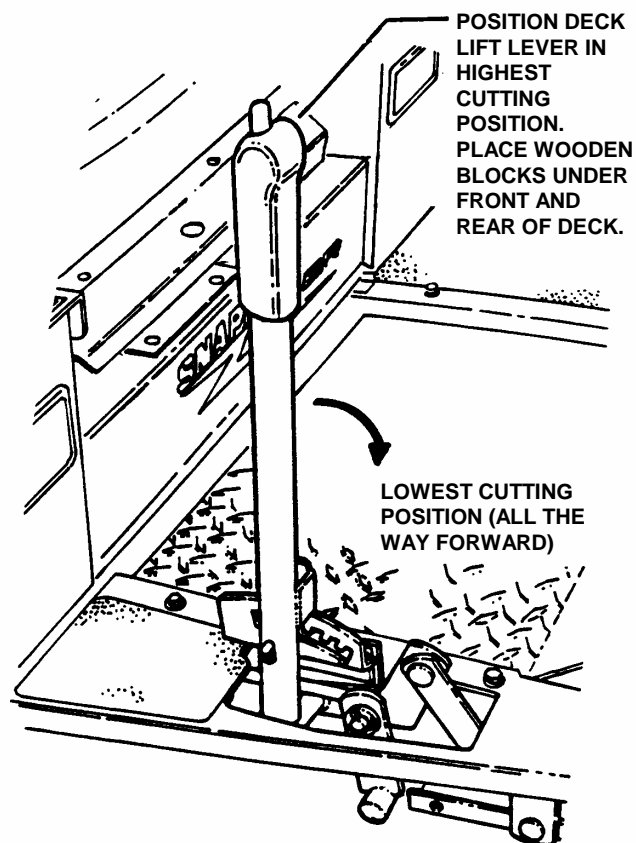

FIGURE 4.9
1. Move deck lift lever and set the mower deck to the highest cutting position. See Figure 4.9.
3. Move deck lift lever and set the mower deck to a lower cutting position until deck rests on wooden blocks. See Figure 4.9.